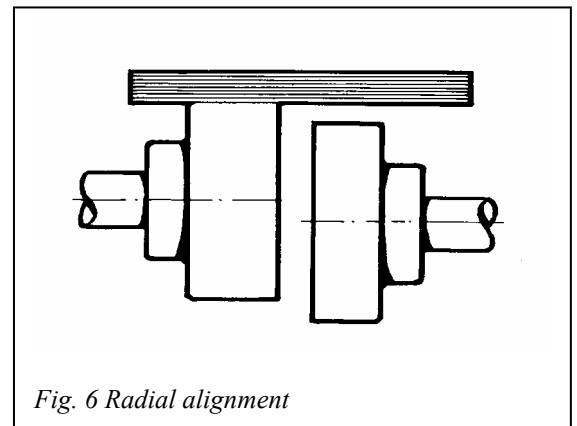

Fig. 6 Radial alignment
- The radial displacement (Fig. 6) is maximum  $1/2000^{\text{th}}$  of coupling diameter.
To obtain radial alignment (Fig. 6) place a steel ruler on the coupling and measure the difference at four positions around the periphery. By adjusting uniformly under pump or driver feet the difference should be brought down to an acceptable value, typically  $1/2000^{\text{th}}$  of the coupling diameter, e.g. 0.05mm for each 100mm diameter.